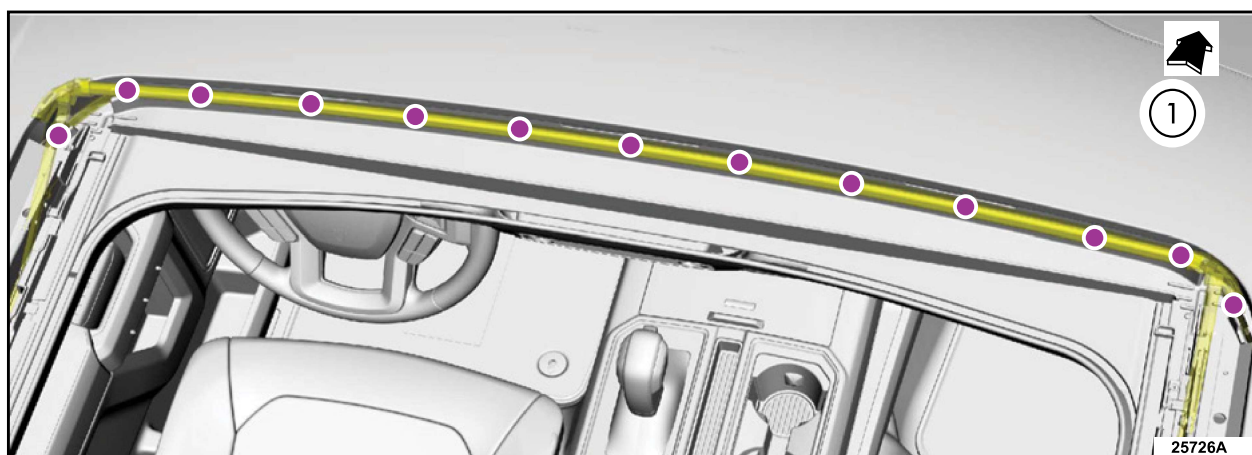

FIGURE 1
3. Visually inspect the plastic edge of the air deflector fabric material and verify that the plastic edge is secured to the roof opening panel frame tabs in all 13 locations. See Figures 1 and 2.